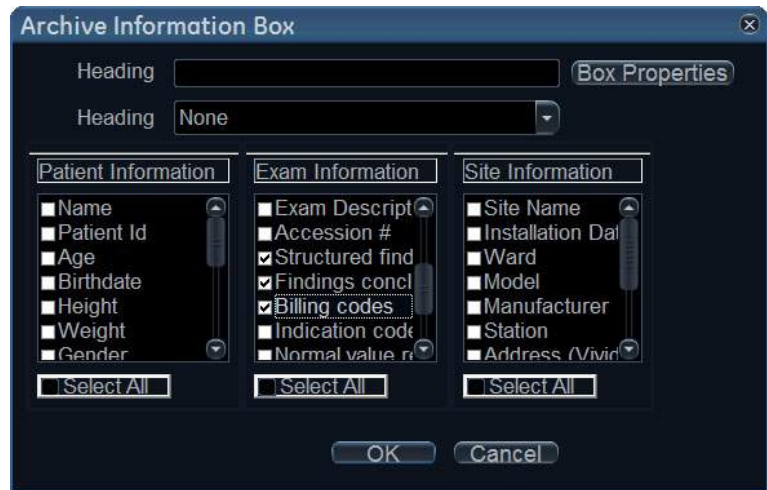

Figure 11-2. The Archive information box
The *Archive information* box is displayed (Figure 11-2).
7. Select **Structured findings, Findings conclusion Indication codes** and **Billing codes** in the *Exam Information* field (Figure 11-2).